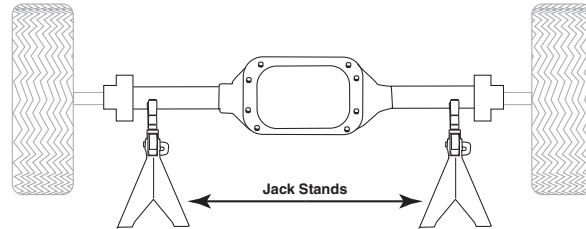

fig. 2
1. Raise the vehicle and support the axle with jack stands, setting the jack stands as wide as possible on the axle (fig. 2)